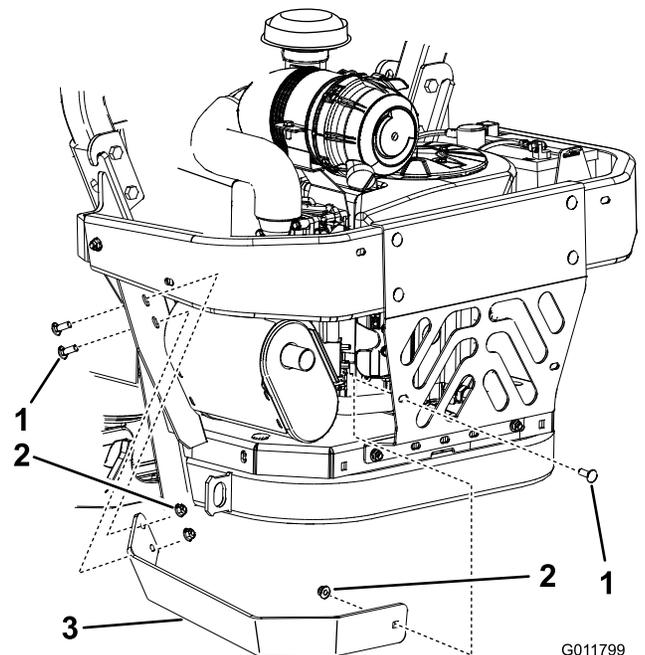

Figure 9
2. Install the new muffler guard with the previously removed hardware (Figure 9).